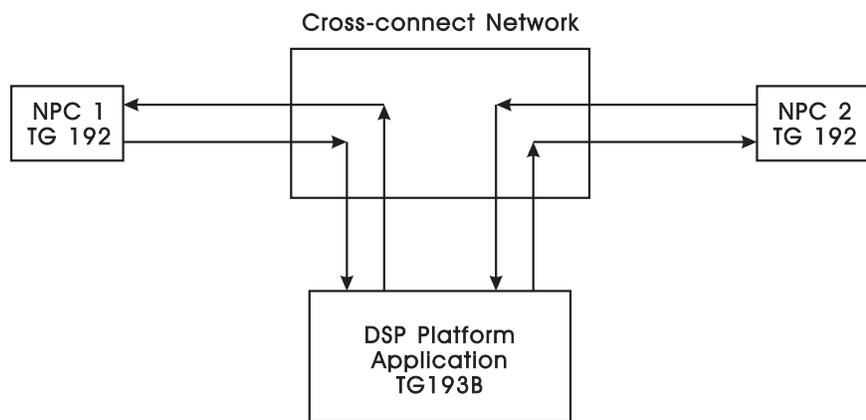

Figure 1-1. Connection Established Between NPC and DSP Circuit Pack
- The third step is to **establish** the cross-connections between the appropriate facility terminating NPCs and the DSP circuit pack. Establishing these cross-connections is performed by using the application command `CRTE-CRS-TS`. Please note that channels on the DSP circuit pack must be cross-connected to channels on the appropriate facility terminating NPCs before cross-connections of subrate circuits can be made. These connections are illustrated in Figure 1-1.